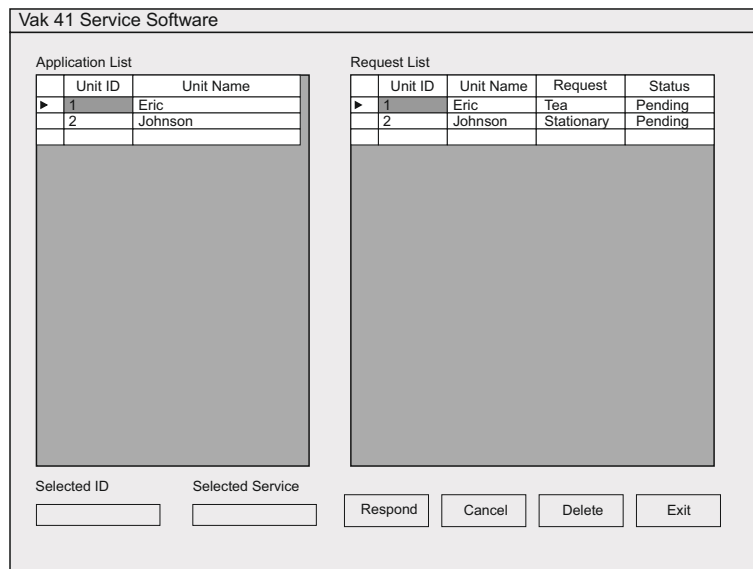

Figure 5.8: User screen
- Service selected by that microphone unit will be displayed on the screen as shown in user screen as shown in figure 5.8.